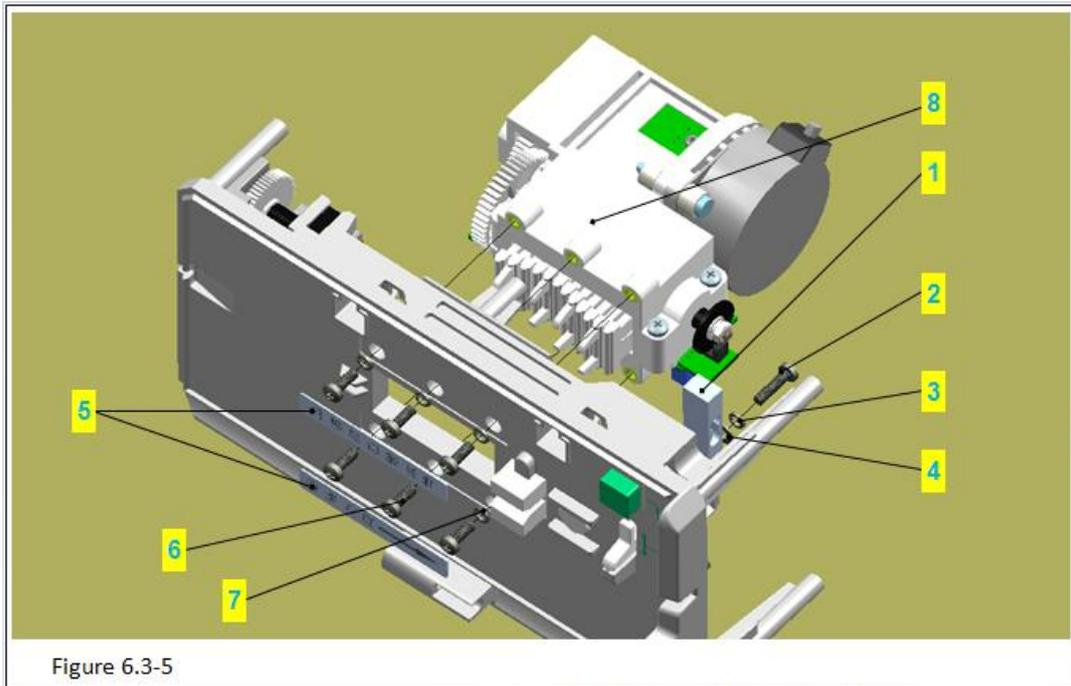

Figure 6.3-5 Notes:
1)Use pliers to take out the spring (figure 6.3-5/code name 2) in the door shaft (figure 6.3-5/code name 2).
3)Remove the cover board (figure 6.3-5/code name 5).